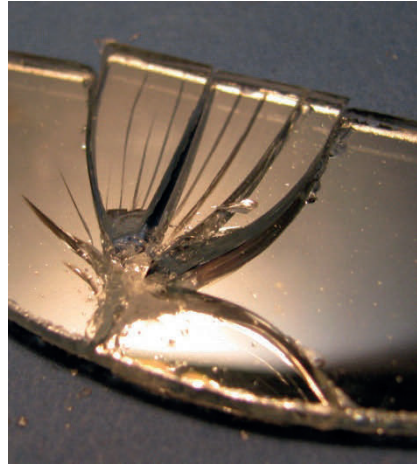

Fig. 2.2: Full face shield with plastic foil that need to be peeled off
- When using a metal grinder you will generate sparks. Use a full face shield and safety glasses for these operations. Make sure not to have lots of cardboard boxes, gas containers for you snow blower / lawnmower, paint, solvents, etc. in your basement or garage hobby shop. The sparks generated by grinders or metal saws can ignite a fire. It may start to burn long after you left the shop ... Full face shields often have a plastic foil on the shield which needs to be peeled off. Otherwise the shield may not be transparent (Fig. 2.2) – just a note in case you didn't realize. (I have seen students running around ...)